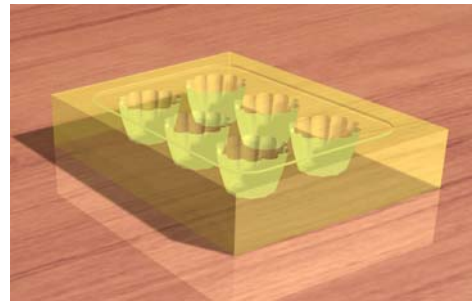

Fig.3 Silicone bottom mold
4. **Manufacture of a wooden or plastic box** to fit the RP model and in which the silicone rubber (SR) can be cast in a liquid state. It has a vertical rod attached to the model, which will be removed after casting SR and thus will result the funnel casting from the upper mold (fig.2). The bottom mold is shown in Figure 3..